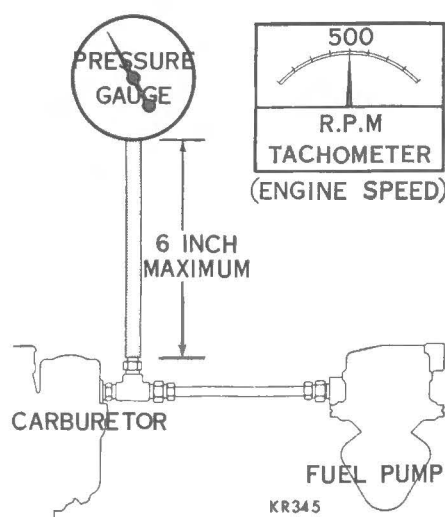

Fig. 2 - Pressure testing the fuel pump.
- (1) Insert a "T" fitting in the fuel line at the carburettor as shown in Fig. 2.